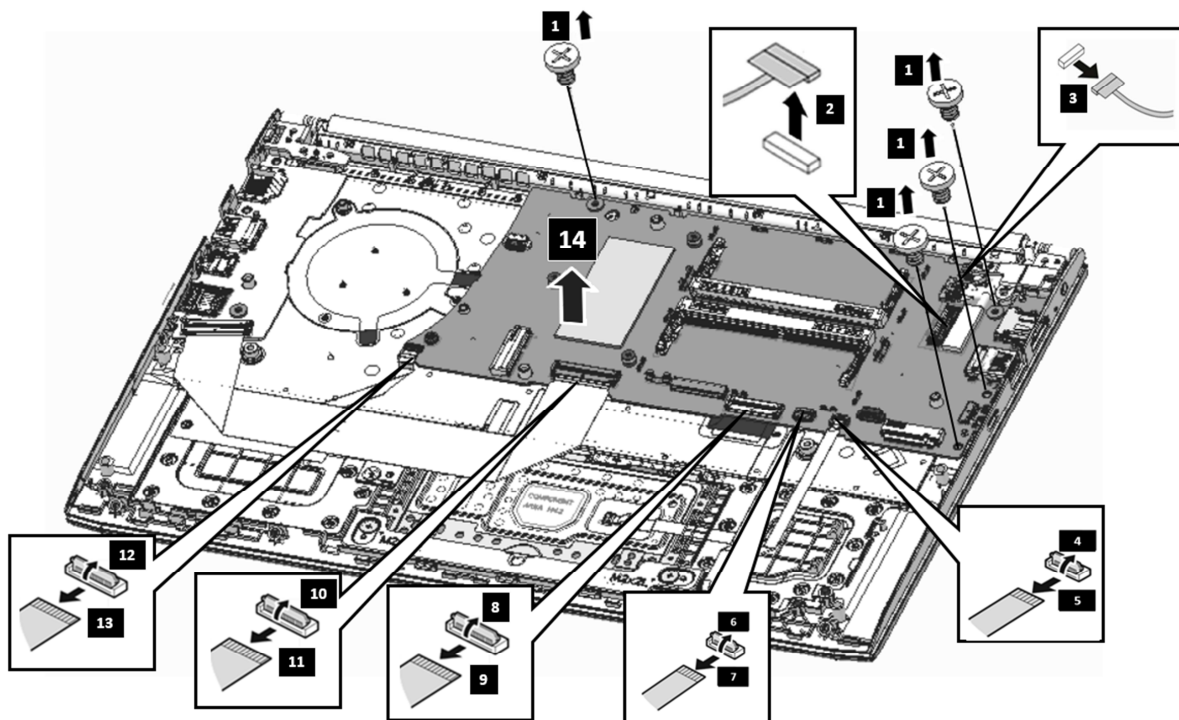

Figure 4-13 Removing the Motherboard
Remove the motherboard according to the following procedures and Figure 4-13.
2. Disconnect the eDP cable ,2/ DCIN cable ,3/sensor board FFC ,4 ,5/TP FFC ,6 ,7/keyboard FPC ,8 ,9/IO FFC ,10 ,11/ FP FFC ,12 ,13 from the motherboard as shown in Figure 4-13.
2. Tighten four M2×3 screw ,1 to secure the motherboard to logic upper assembly as shown in Figure 4-13.
3. Connect the eDP cable ,2/ DCIN cable ,3/ sensor board FFC ,4 ,5/ TP FFC ,6 ,7/ keyboard FPC ,8 ,9/ IO FFC ,10 ,11/ FP FFC ,12 ,13 to the motherboard as shown in Figure 4-13. Make sure the FPC and the connectors are properly engaged and firmly secured.